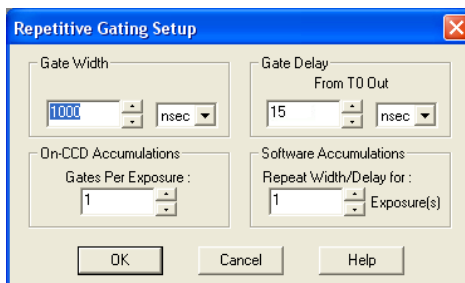

Figure 56. Repetitive Gating Setup dialog
- The Gate Width and Gate Delay values would be entered in the dialog shown in Figure 56.